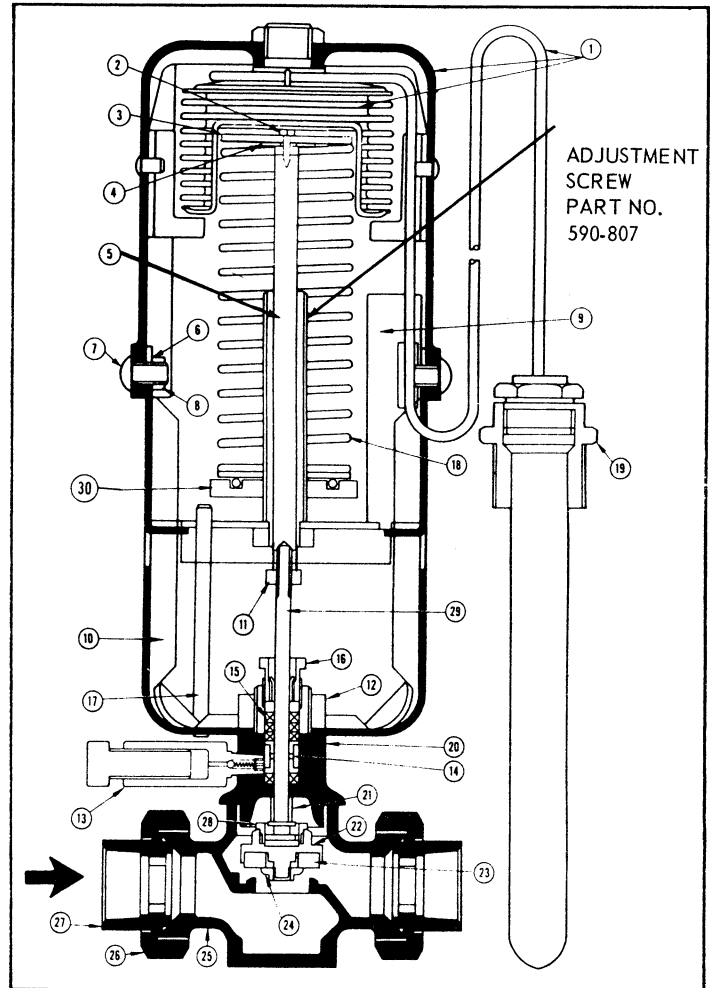

FIGURE 18
**SERVICING (Refer to figure 18)**
- A. Foreign material between the DISC (23) and the valve plug seat. Remove BONNET (20) (see Maintenance) and clean.
- B. DISC (23) is worn. Replace DISC as described in Maintenance.
- C. THERMAL SYSTEM (1) failure. See Thermal System Testing, Page 4.
- E. PACKING GLAND ASSEMBLY (16) too tight locking VALVE STEM (29). Loosen PACKING GLAND ASSEMBLY (16) and lubricate.
- F. Bent VALVE STEM (29). See Servicing, for replacement of stem
- I. TEMPERATURE ADJUSTING NUT ASSEMBLY (30) raised too high. See Temperature Adjustment,